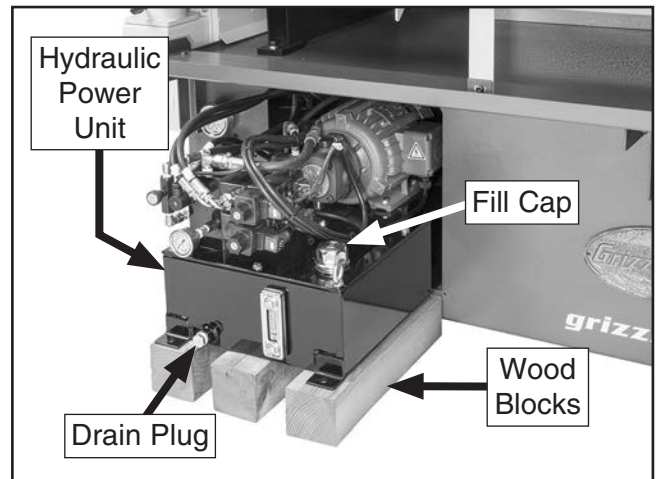

Figure 87. Hydraulic power unit removed from base.
4. Slide hydraulic power unit out of machine base and support weight of unit with wood blocks (see **Figure 87**).
5. Remove fill cap (see **Figure 87**), then remove drain plug and allow tank to empty into drain pan.